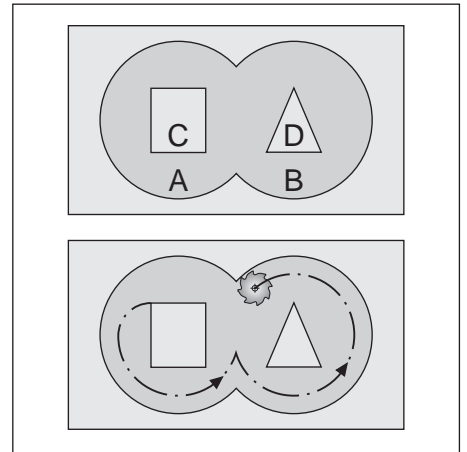

Fig. 8.40: Cutter path for ROUGH-OUT.
- First the island contours (*C* and *D* in figure 8.40) are rough-milled until the pocket contour (*A*, *B*) is approached.